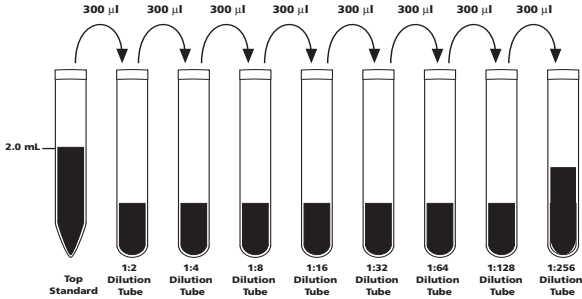

Figure 2. Preparation of Human Th1/Th2 Cytokine Standard Dilutions
5. Perform a serial dilution by transferring 300 µl from the Top Standard to the 1:2 dilution tube and mix thoroughly. Continue making serial dilutions by transferring 300 µl from the 1:2 tube to the 1:4 tube and so on to the 1:256 tube and mix thoroughly (see *Figure 2*). **Mix by pipette only, do not vortex.** Prepare one tube containing Assay Diluent to serve as the 0 pg/ml negative control.